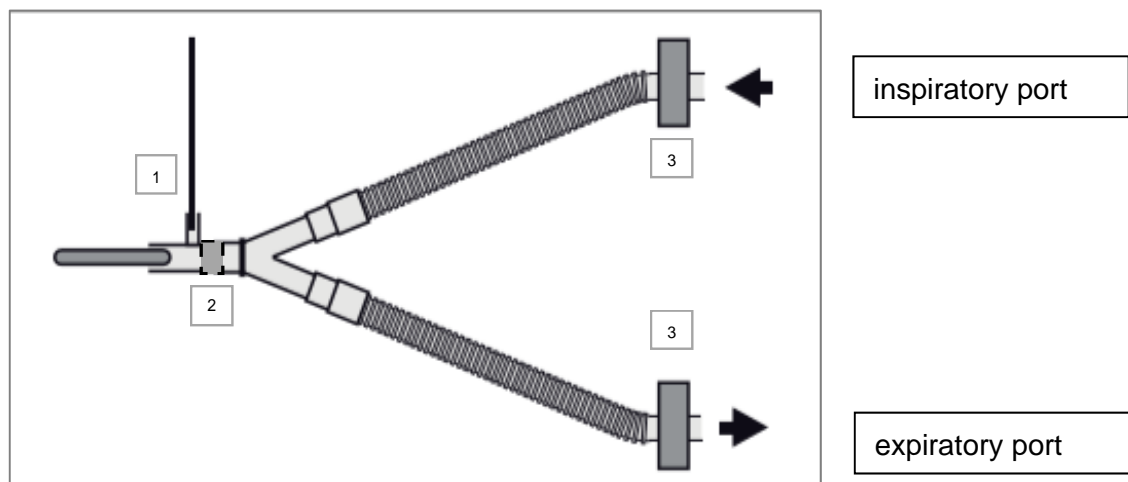

Figure 3: System setup recommendation for neonatal patients (tidal volume approx. < 30 ml)
- For neonatal patients, it is frequently necessary to sample breathing gas for the monitoring of CO₂, O₂, N₂O and anesthetic agents from the patient side of an HME (see position 1/ figure 3). Otherwise the quality of the measured gas parameters might not be sufficient.
- Use HME at the Y-piece for sufficient humidification of the airways. e.g. Dräger HumidStar 2 (MP01745) for tidal volumes above 10ml (see position 2/ figure 3).
- Use mechanical BSFs such as SafeStar 55 (MP01790) at each the expiratory and the inspiratory port of the anesthesia machine (see position 3/ figure 3).